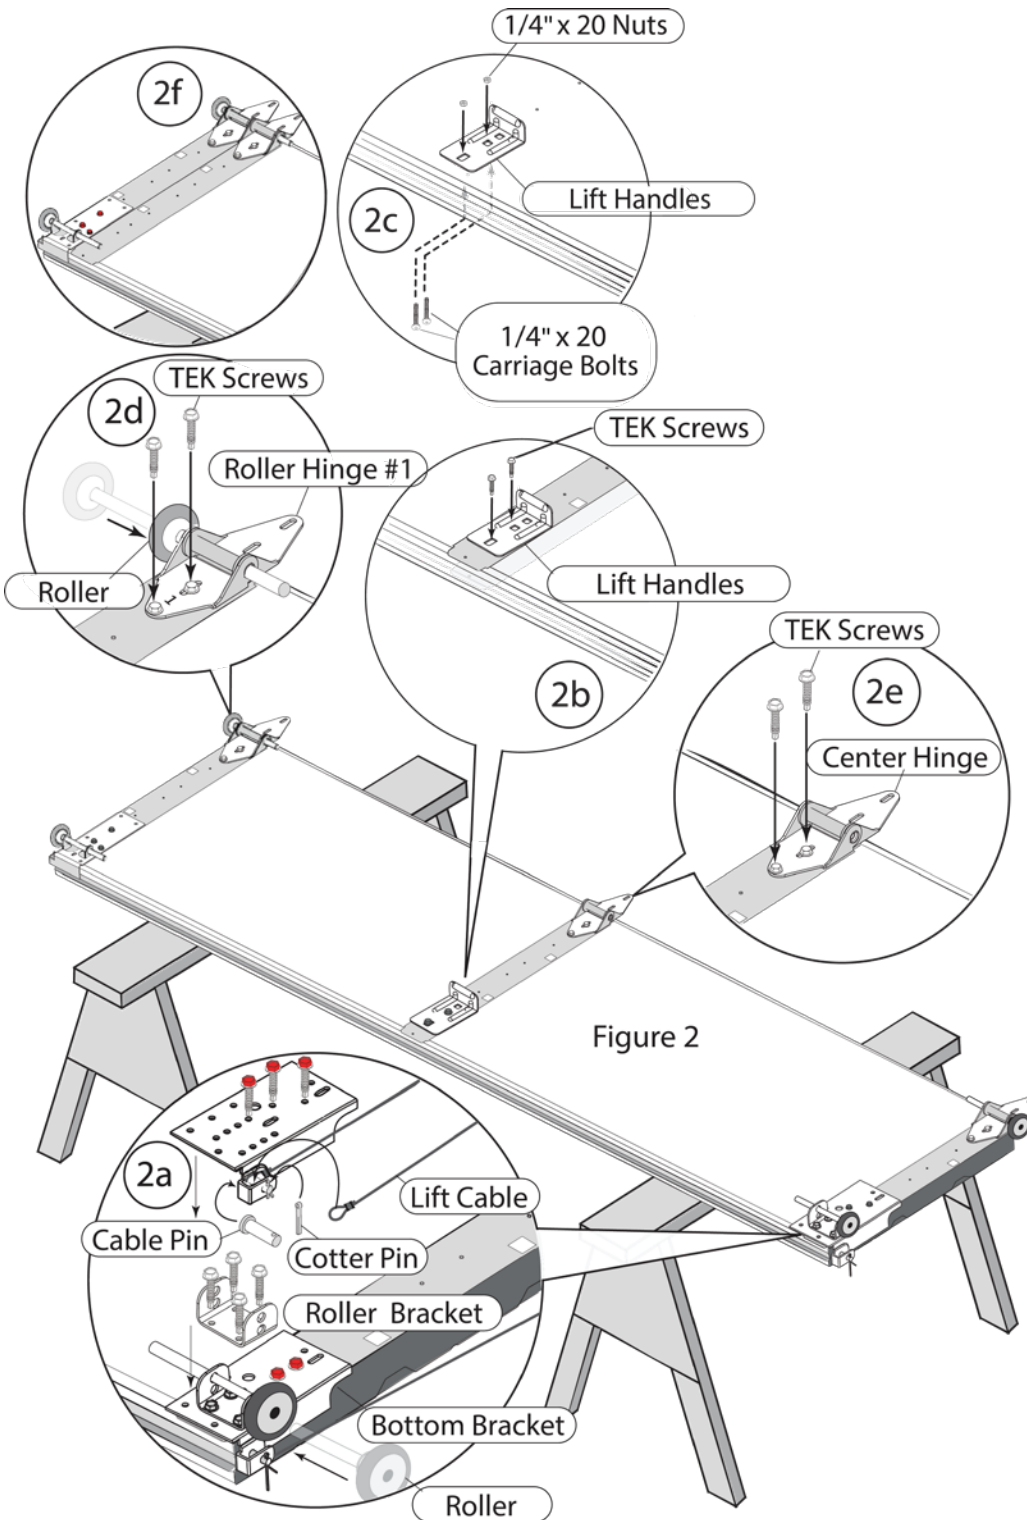

Figure 2
Place the bottom section face down on a sturdy pair of padded saw horses (Figure 2, page 9). Insert the Cable Pin into the round hole in the Bottom Bracket, from the inside. Then insert the looped end of the Lift Cable onto the Cable Pin. Push the Cable Pin through the round hole from the inside (Figure 2a). With the Lift Cable securely installed, slide the Cotter Pin (Figure 2a) through the hole in the Cable Pin, then bend out one leg of the Cotter Pin. Slide the right Bottom Bracket to the bottom of the right end stile (Figure 2a). Fasten the flat base of the Bottom Bracket with (3) 1/4-20 x 1" RED TEK Screws (Figure 2a). Fasten the Roller Bracket with (4) 1/4-20 x 1" TEK Screws. Insert the Long Stem Roller into the Roller Bracket (Figure 2a).